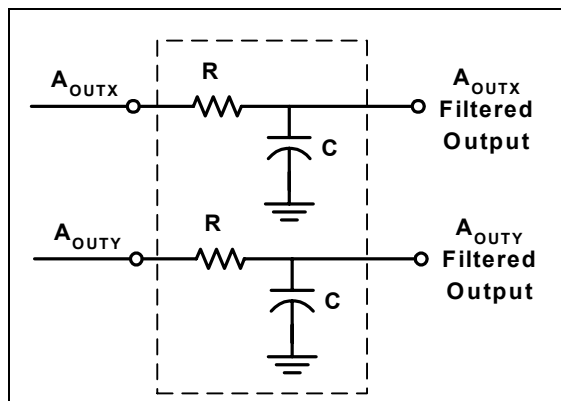

Figure 4: Low Pass Filter
**Low Pass Filter:** An external low pass filter is useful in low frequency applications such as tilt or inclination. The low pass filter limits the noise floor and improves the resolution of the accelerometer. The low pass filter shown in Figure 4 has a  $-3\text{dB}$  breakpoint given by the equation: